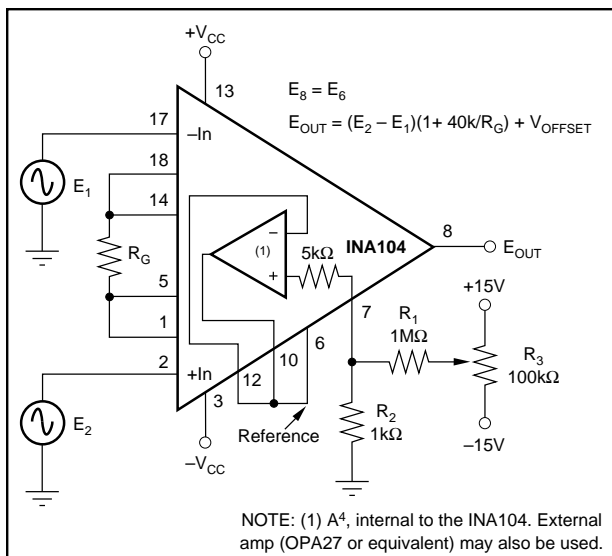
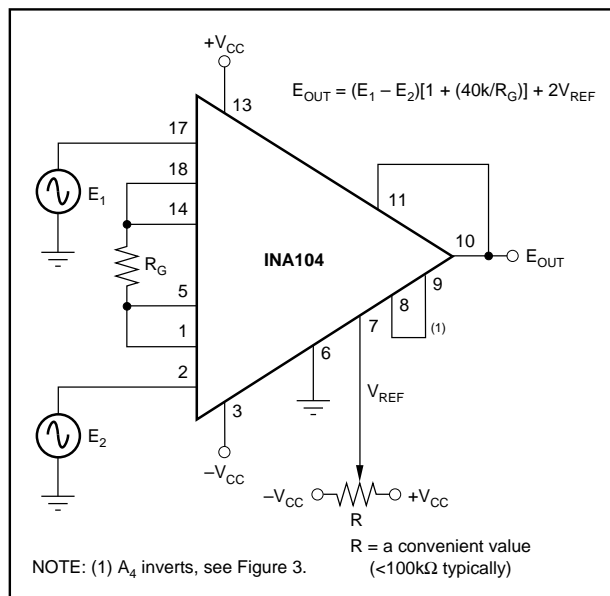

FIGURE 2. Optional Output Offset Nulling or Offsetting Using an Amplifier (Low Impedance to Pin 6).
FIGURE 4. Output Offsetting.
It is frequently desirable to null the input component of offset (Figure 1) and occasionally that of the output (Figure 2). The quality of the potentiometer will affect the results, therefore, choose one with good temperature and mechanical-resistance stability. The procedure is as follows:
4. If the output component of offset is to be removed or if it is desired to establish an intentional offset, adjust the 100kΩ potentiometer in Figure 2 until the output reads $0V \pm 1mV$ or desired setting. Note that the offset will not change with gain, but be sure to use a stable amplifier with good DC characteristics. The range of adjustment is $\pm 15mV$ as shown. For larger ranges, change the ratio of R_1 to R_2 . The op amp is used to maintain a low resistance ($<0.1\Omega$) from pin 6 to Common to avoid CMR degradation.
Output offsetting (“zero suppression” or “zero elevation”) may be more easily accomplished with the INA104 than with most other IC instrumentation amplifiers as shown in Figure 4. The use of the extra internal op amp, A₄, means that CMR of the instrumentation amp is not disturbed, and that a convenient value of variable resistor can be used. The circuit shown in Figure 2 can also be used to achieve the desired offsetting by scaling the resistors R_1 and R_2 . A low impedance path from pin 6 to Common should be provided to achieve the high CMR specified. Resistance above 0.1Ω will cause the CMR to fall below 106dB.